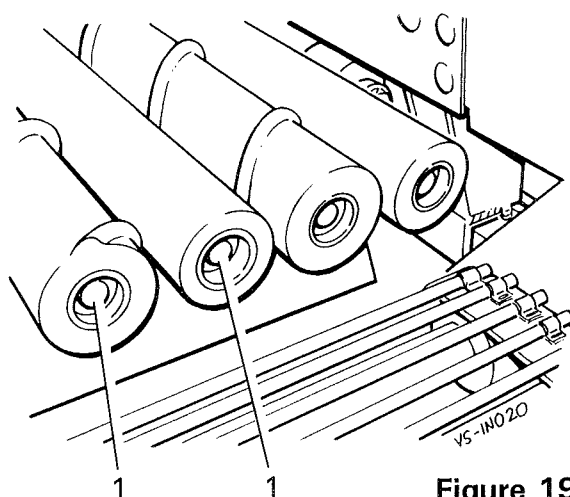

Figure 19
The rollers are retained on the cleaner unit shafts by a single bolt and washer (*item 1, figure 19*). To remove a roller, remove the bolt and slide the roller off the shaft. The rollers are a close fit on the spigot at the gearbox end and may need to be prised off or bumped free. When replacing a roller, it is advisable to smear grease on the spigot. Take care to align the driving flats as the shaft slides home and do not force them if they are not in line.